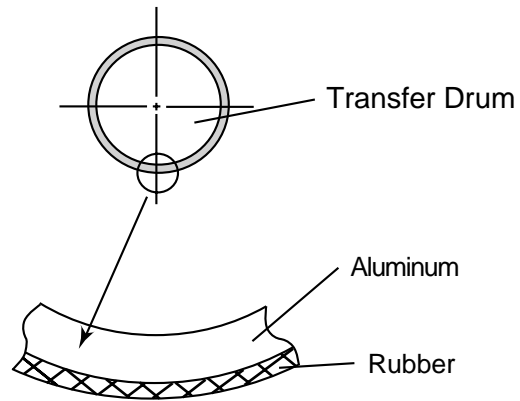

Fig.4-16
- ②. Material of the drum is aluminum.
- ③. Semiconductor rubber is provided to the drum surface as shown in Fig.4-16.
- ④. Transfer drum rotates as contacting and synchronizing with the OPC belt.